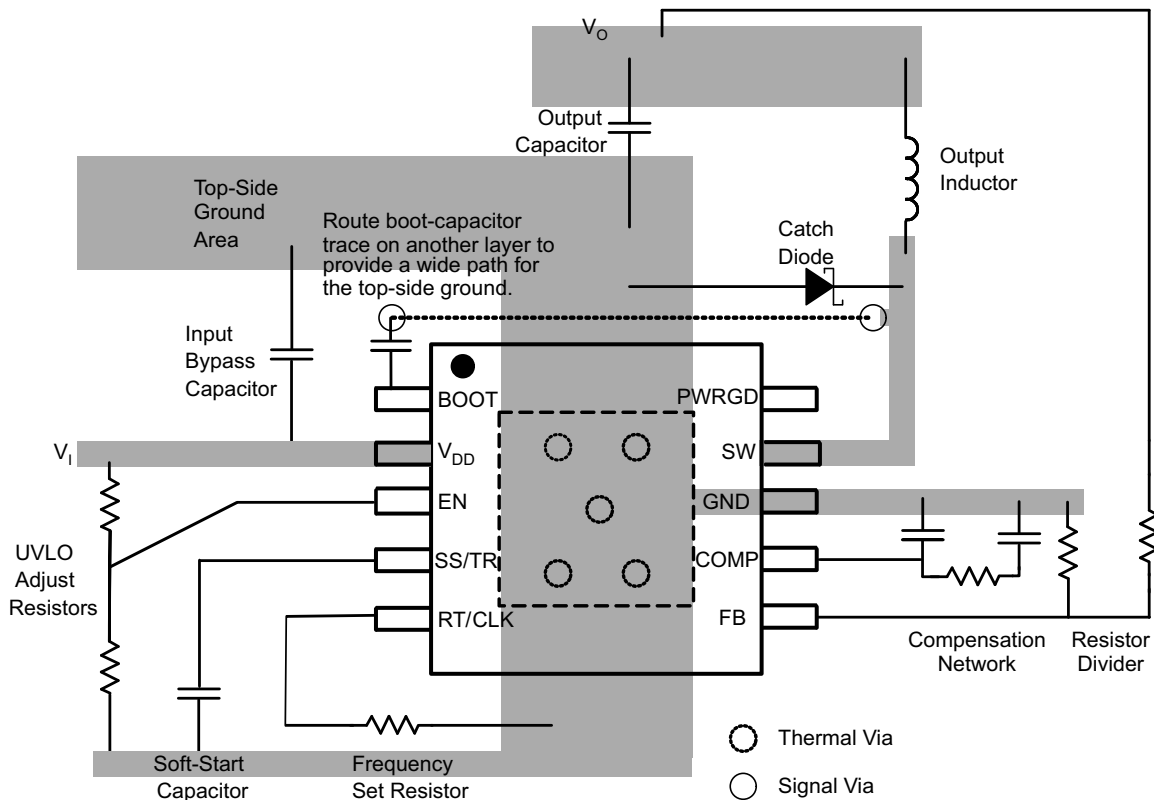

Figure 72. PCB Layout Example
Layout is a critical portion of good power-supply design. There are several signal paths that conduct fast-changing currents or voltages that can interact with stray inductance or parasitic capacitance to generate noise or degrade performance. See Figure 72 for a PCB layout example.
- Figure 72 shows the approximate placement for the additional external components.